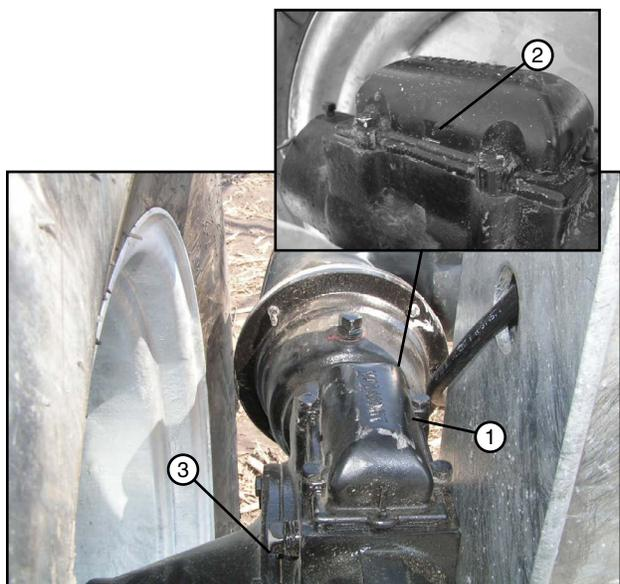

Figure 60-3 1. Expansion Chamber Cap
3. Clean all dirt away from the expansion chamber cap and remove the expansion chamber cap from the wheel gearbox. Do not allow dirt to fall into the gearbox when removing the cap. See Figure 60-3.
9. Install bell housing fill plug and wheel gearbox check plug. Then install the expansion chamber cap on wheel gearbox. Secure with original hardware and torque to 8 lb-ft (10.8 N-m). See Figure 60-3.